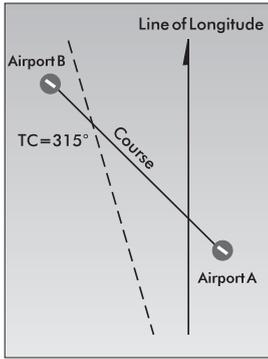

Figure 13 *The first step in dead reckoning navigation: plot a true course.*
6. Adjust magnetic heading for compass errors, called deviation, to find compass heading.	$331^\circ + 2^\circ = 333^\circ$ (see figure 13)